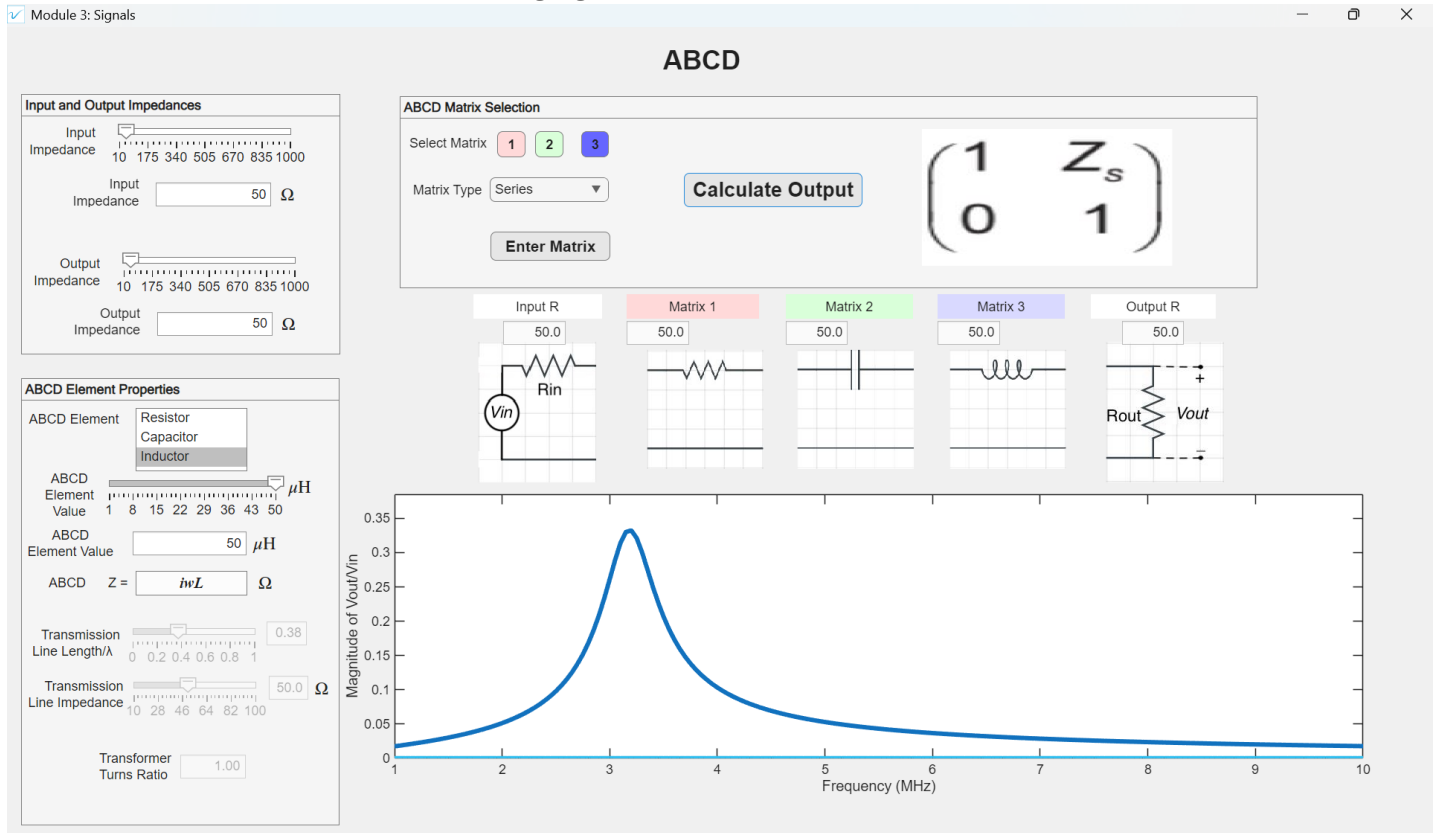

Figure 23: ABCD Simulator GUI
4. After defining the circuit, select the Calculate Output button to display the frequency spectrum of the transfer function expressed as a relative ratio of the output voltage across the R_{out} terminal and the input voltage V_{in} shown as a plot at the bottom of the GUI. In this example, a resonance peak is displayed in Figure 23. Figure 23